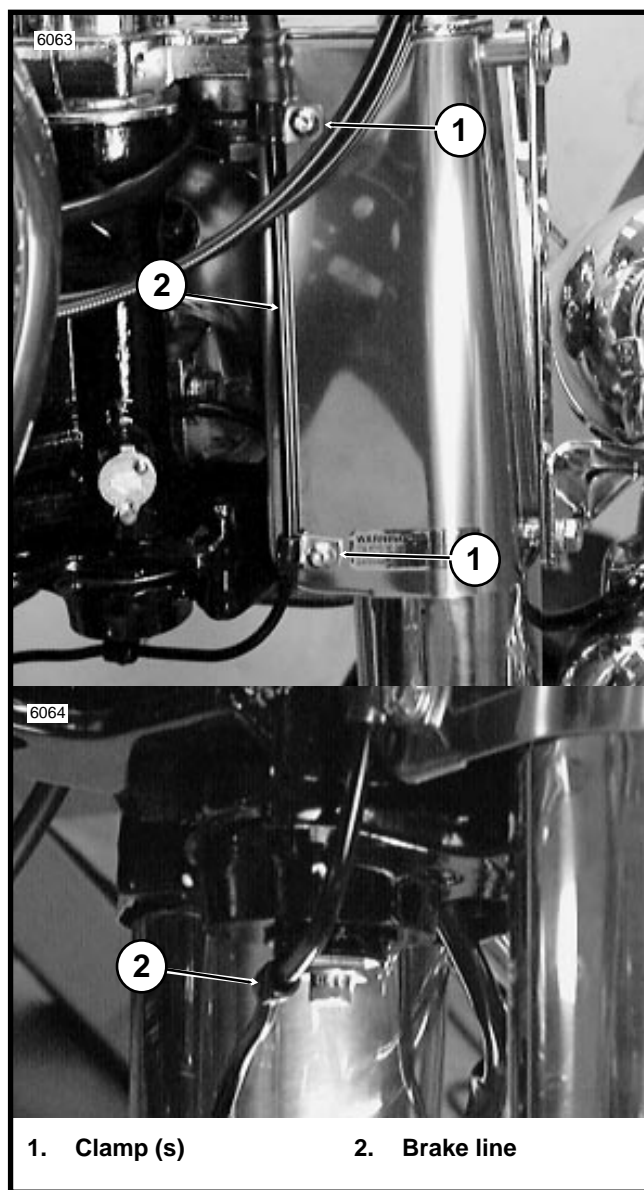

Figure 6
10. See Figure 6. Install brake line (brake line inboard from fastener) in clamps and attach to cover.